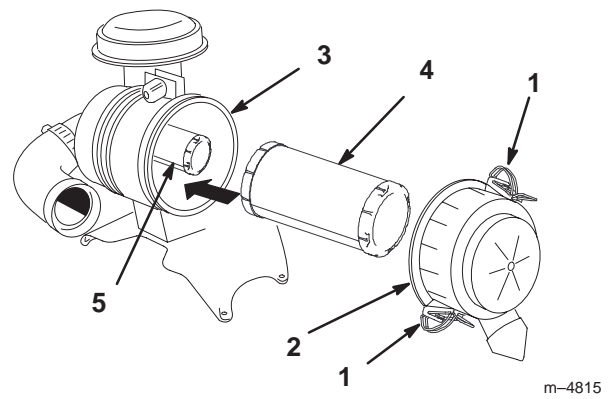

Figure 36
2. Release the latches on the air cleaner and pull the air cleaner cover off of the air cleaner body (Fig. 36).
4. Gently slide the primary filter out of the air cleaner body (Fig. 36). Avoid knocking the filter into the side of the body.
2. If the safety filter is being replaced, carefully slide it into the filter body (Fig. 36).
3. Carefully slide the primary filter over the safety filter (Fig. 36). Ensure that it is fully seated by pushing on the outer rim of the filter while installing it.
4. Install the air cleaner cover with the side indicated as **UP** facing up and secure the latches (Fig. 36).